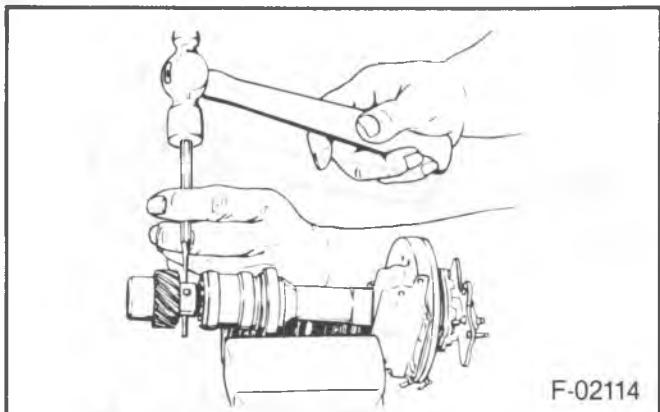

Figure 25—Removing the Roll Pin
2. Cap (23) from the housing.
3. Rotor (10) from the shaft by lifting or prying straight up.
4. Roll pin (27) from the shaft (26).
- Drive out the roll pin with a small punch (figure 25).
5. Driven gear (29), washer or spring, and spring retainer (52) or tang washer (33).
6. Shaft (26) with the pole piece and plate from the housing (30).
7. Retainer (49) from the housing (30) by prying it with a screwdriver.
8. Shield (50).
9. Pickup coil connector from the module (14).
10. Pickup coil (11).
12. Module (14).
2. Rotor (10).
4. Hall Effect switch (35) by lifting straight up.
5. Roll pin (26) from the shaft (27).
6. Driven gear (29), washer (31), spring (51), retainer (52), and tang washer (33).
7. Shaft (27) from the housing (30).
8. Thin "C" retaining washer (53) from inside the pickup coil assembly.
10. Pickup coil assembly (11) from the housing.
13. Module (14).